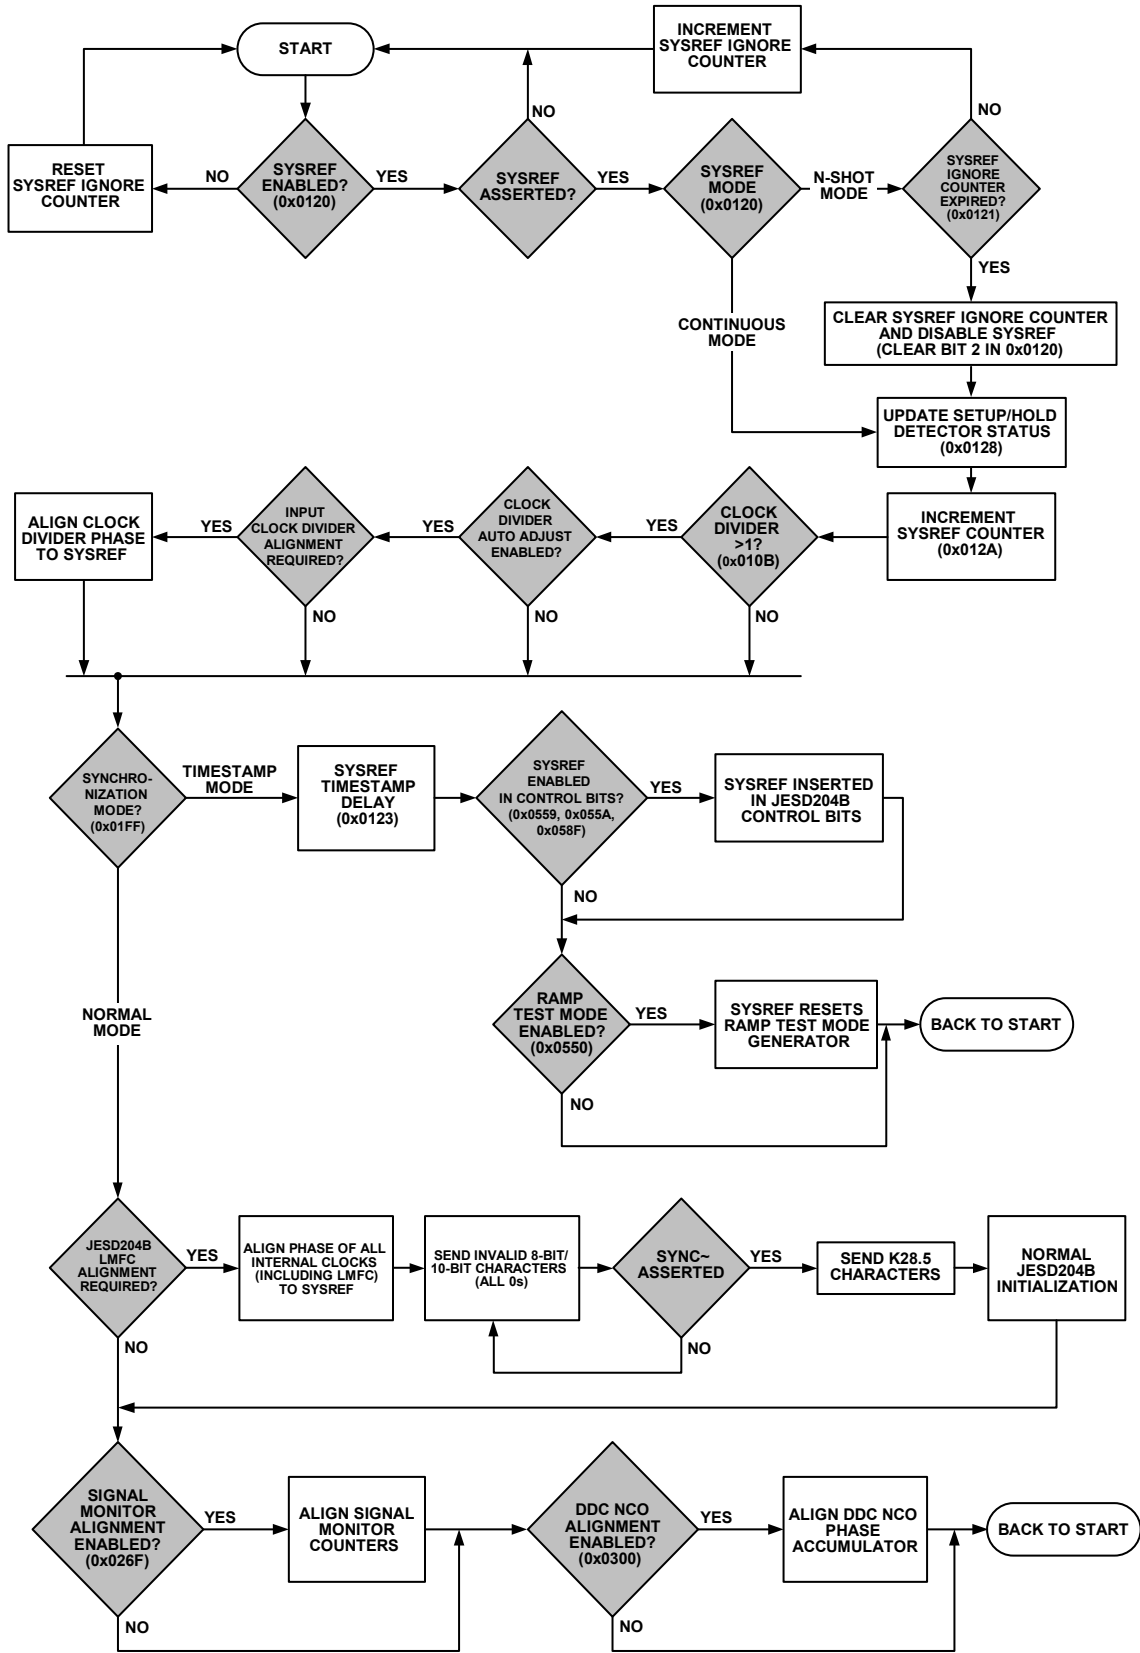

Figure 133. SYSREF± Capture Scenarios and Multichip Synchronization
The flowchart shown in Figure 133 describes the internal mechanism for multichip synchronization in the AD9695.
The default state of the chip synchronization mode bit is 0, which configures the AD9695 for normal chip synchronization. The JESD204B standard specifies the use of SYSREF± to provide deterministic latency within a single link. This same concept, when applied to a system with multiple converters and logic devices, can also provide multichip synchronization. In Figure 133, this is referred to as normal mode. Following the process outlined in the flowchart ensures that the AD9695 is configured appropriately. Consult the logic devices user intellectual property (IP) guide to ensure that the JESD204B receivers are configured appropriately.